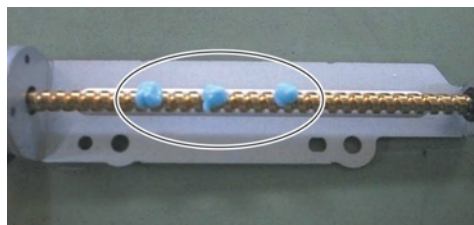

Fig. 12
- Apply grease to the screw at 3 points as shown below. (Fig. 12)
- スクリュー部の下図3ヶ所にグリスを塗布します。(Fig. 12)